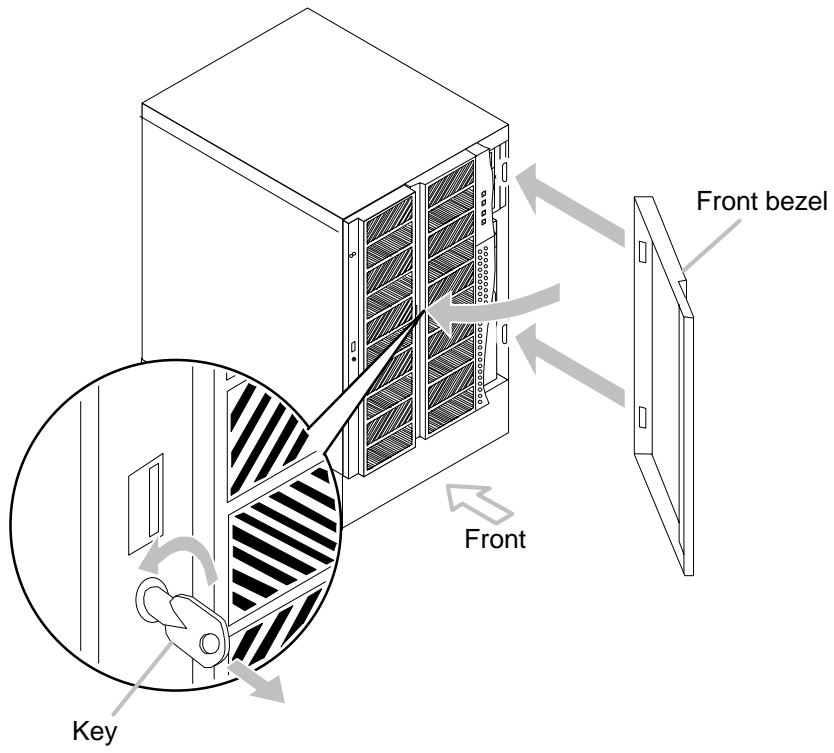

Figure 4.33 Attach the Front Bezel
6. Turn on the main switch. (see figure 4.33)
Then, turn the key counterclockwise 90° to lock the front bezel, and pull out the key. (see figure 4.33)